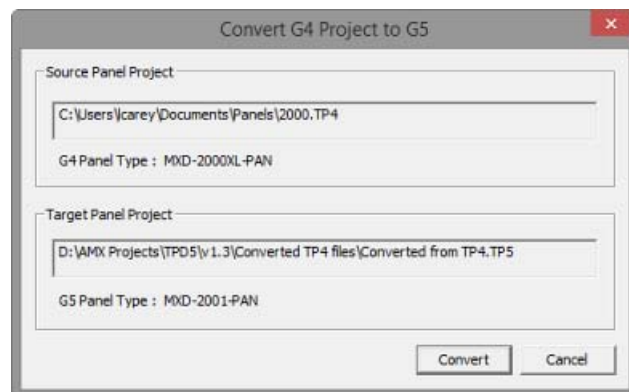

FIG. 435 G4Utility, with Source and Target Panel Projects specified
5. Once the files have been read by the program, the *Convert G4 Project to G5* dialog is displayed. Note that this dialog indicates the G5 panel type that is targeted for this conversion, based on the selected Source Project (G4) file (FIG. 435):